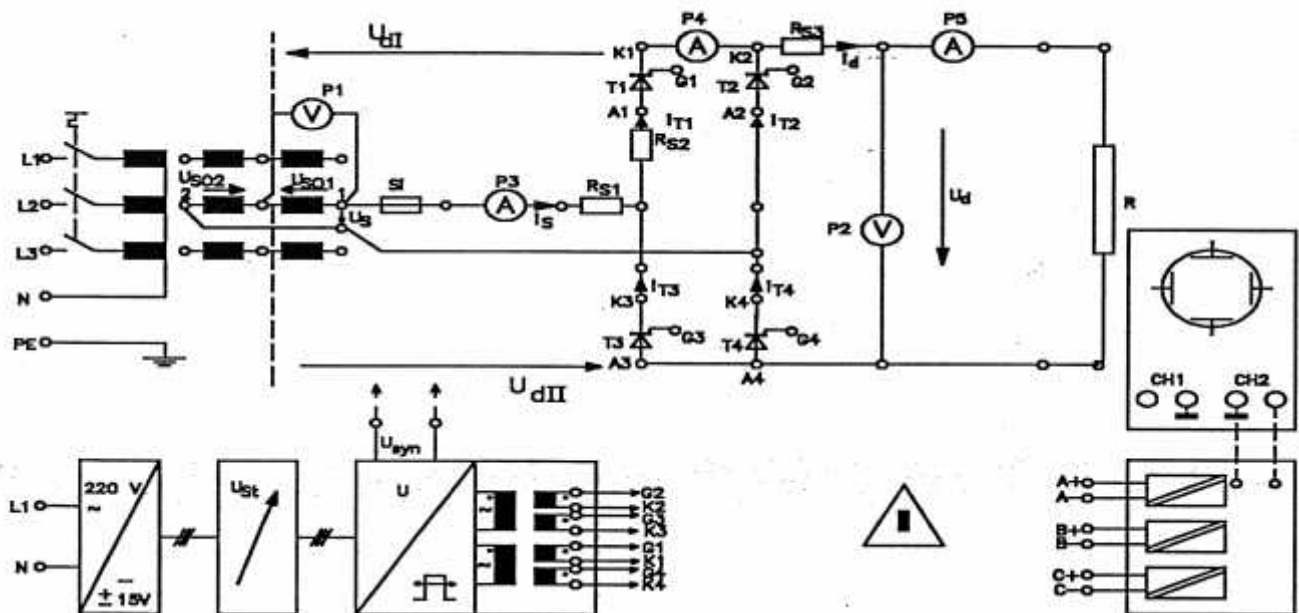

Figure 3 Two pulse bridge controlled rectifier
- Connect the power circuit as shown in Figure 3, while using the supply voltage one at a time: 45V , 90 V and a load resistance of 33Ω , (three 100Ω resistance connected in parallel)